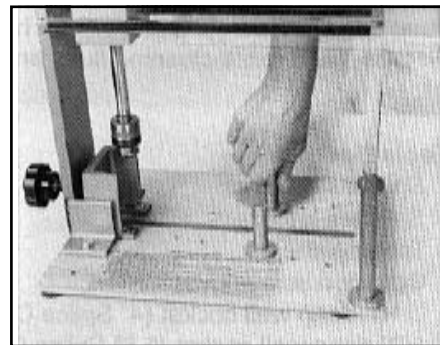

FIGURE 6 - PUT STOP POSTS INTO CUTTER
4.03 Insert stop-posts in tapped holes in base of cutter corresponding to the 9.5" (241.3 mm) End Plate diameter and hand tighten firmly. (Figure 6)